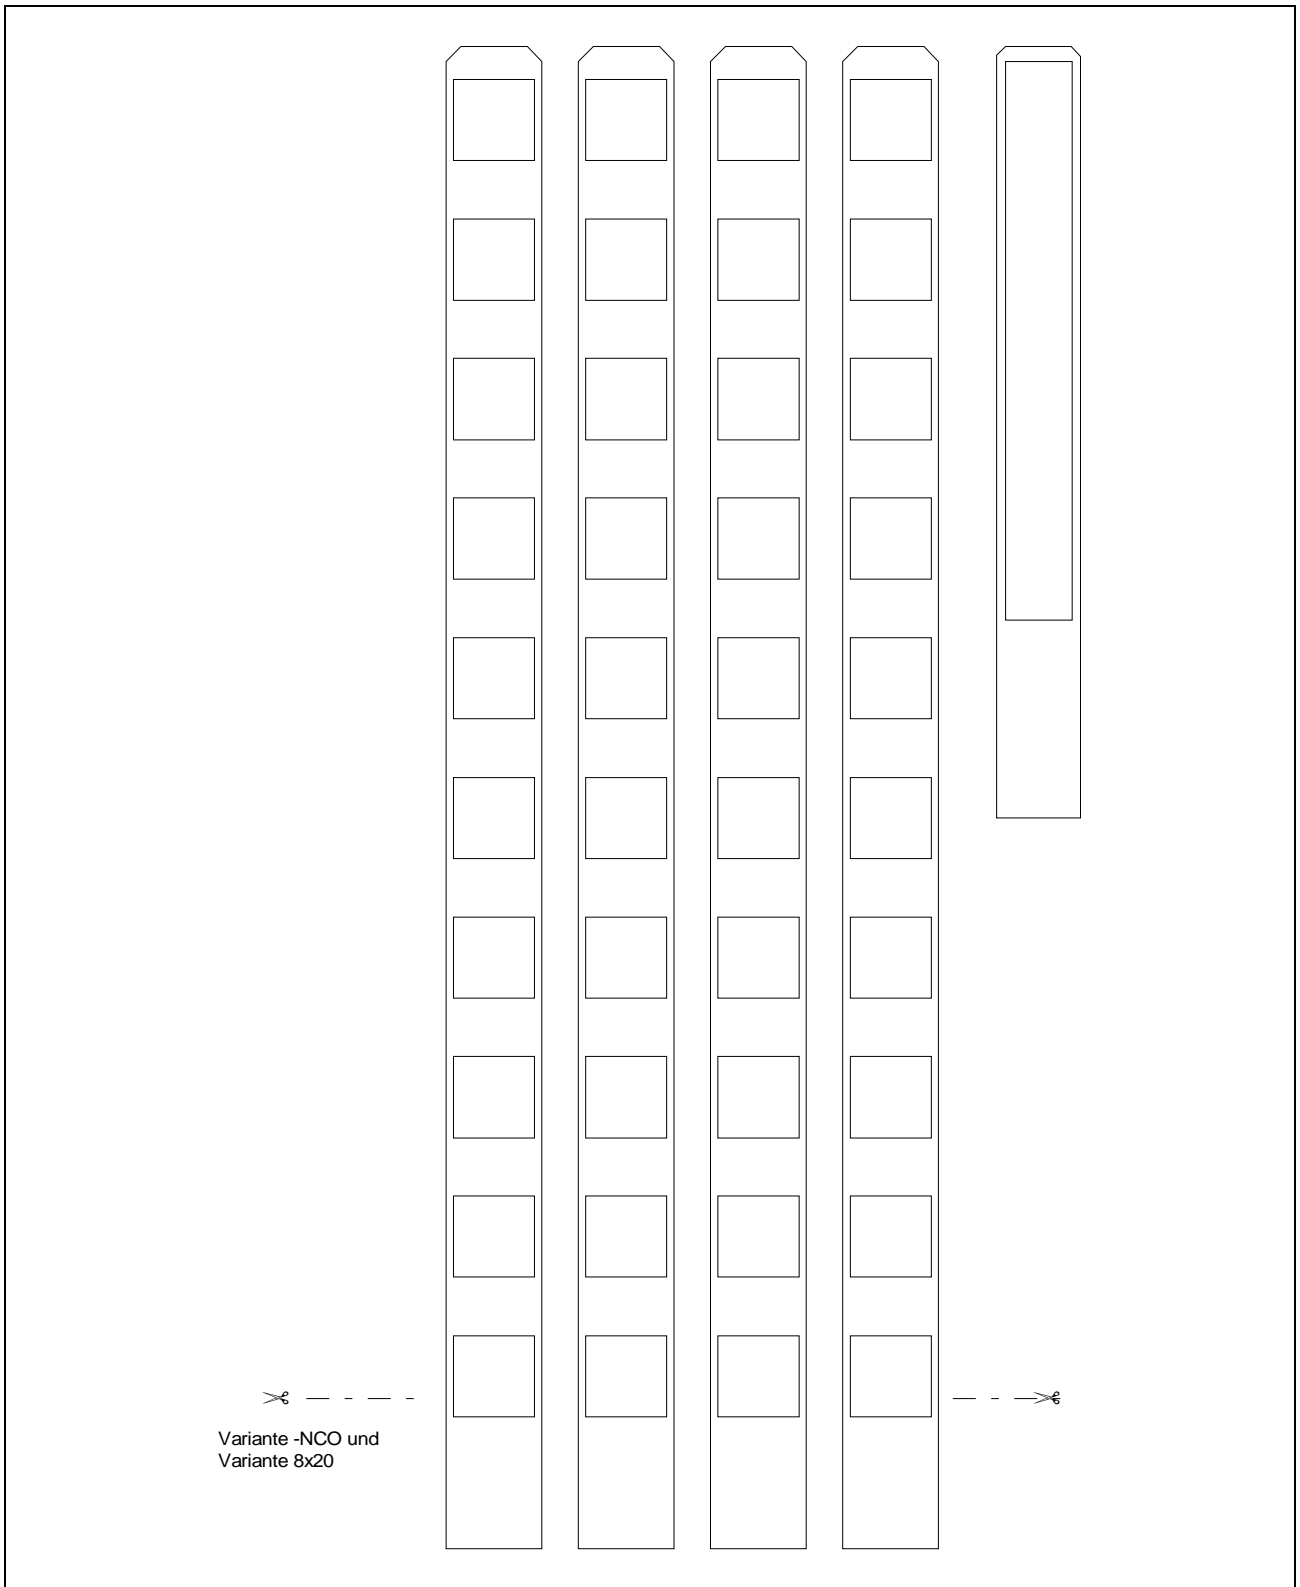

Fig. 5-2: Labeling strips scale 1 : 1
- Fig. 5-2: Labeling strips scale 1 : 1 5-2